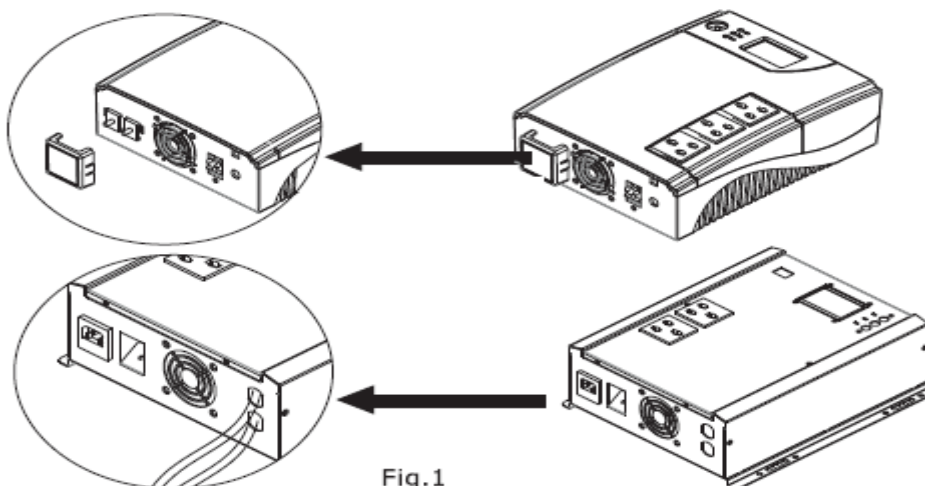

Fig.1
Step3: Tight the battery cables with the M5 nuts .Do not place anything between the flat part of battery terminal and the battery cable ring terminal or overheating may occur.(See Fig.1)